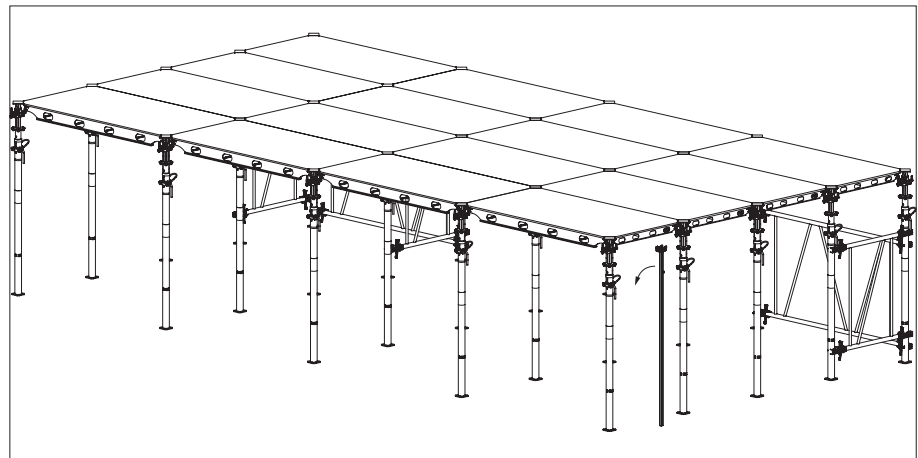

Fig. A5.15
9. Once the last prop is set into position, remove the second shuttering aid (Fig. A5.15)